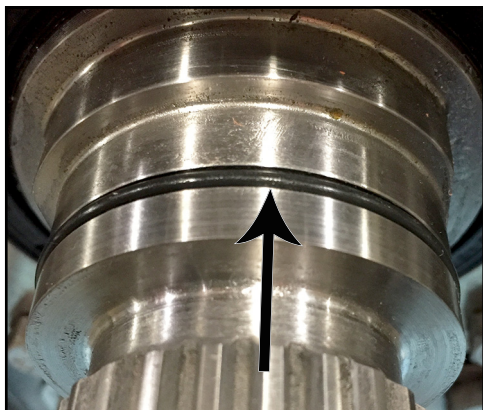

Figure 198 - O-ring installed
17. Figure 198 shows the O-ring installed in the shaft groove.